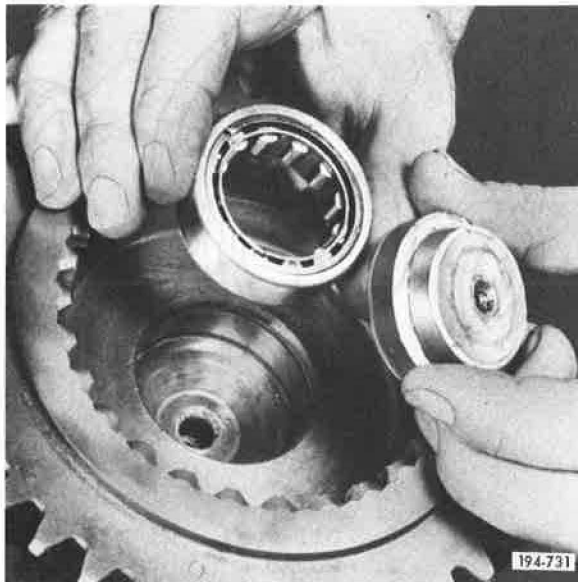

Figure 308. Placing Bearing in Position
3. Place front compound main drive pinion spigot bearing in position, and tap carefully into its seat using an appropriate driver. See Figures 308 and 309.